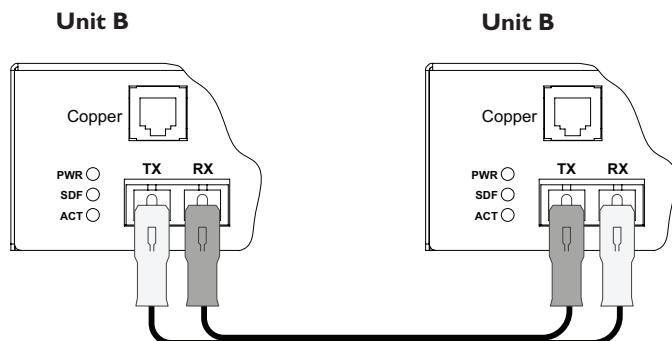

Figure 11: Connect Fiber Cable for Automatic Ring-Down Configuration
1. Install the barrel connector of the AC power cord to the external power connector on back of the SAPTFF33xx-1xx module. See Figure 11.